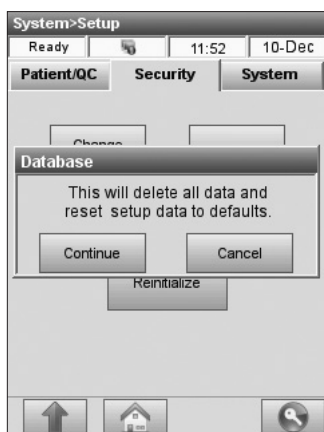

Fig. 3-61 Reinitialize
4. A message will be displayed asking you to confirm your choice (Fig. 3-61).